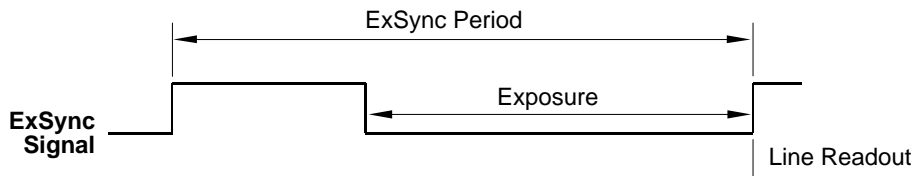

Fig. 53: ExSync Level Controlled Mode
- In **ExSync level controlled** mode, line acquisition begins on the rising edge of the ExSync signal. The exposure time is determined by the time between the falling edge of ExSync and the next rising edge. The pixels are exposed and charge is accumulated only when ExSync is low. The pixel values are read out of the sensor on the rising edge of the ExSync signal (see Figure 53).